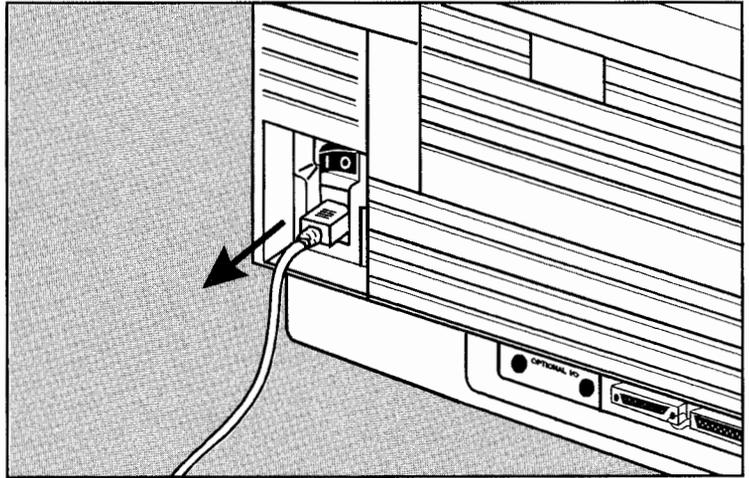

Figure 3-19. Unplugging the Printer Power Cord
4. Turn the printer off and unplug the power cord from the rear of the printer. See Figure 3-19.